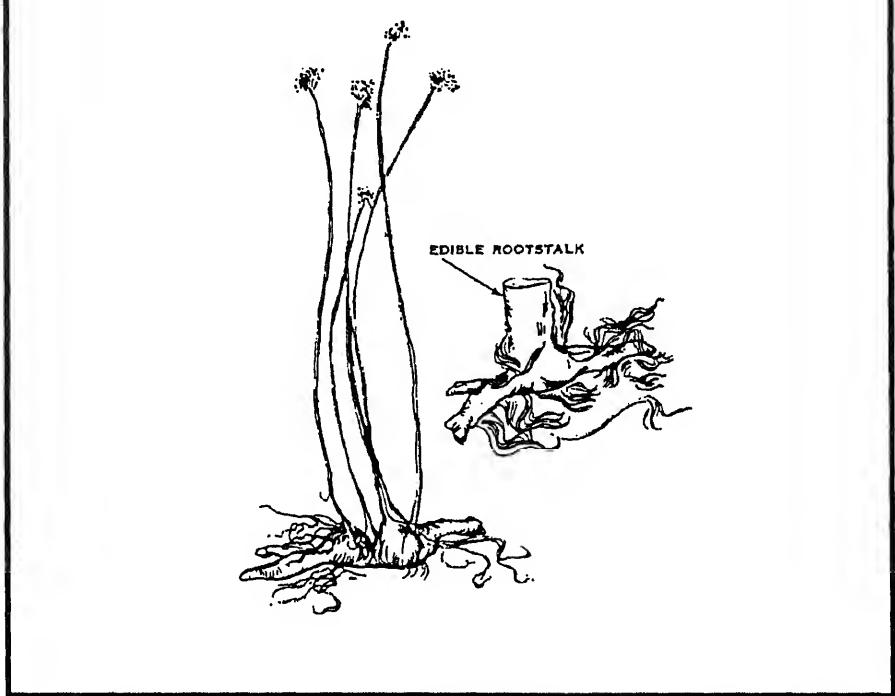

Figure 19-15.—Bulrush.
5. BULRUSH. Bulrush is a tall plant found in the wet, swampy areas of North America, Africa, Australia, the East Indies, and Malaya. (See fig. 19-15.) You may eat the roots and white stem base cooked or raw.